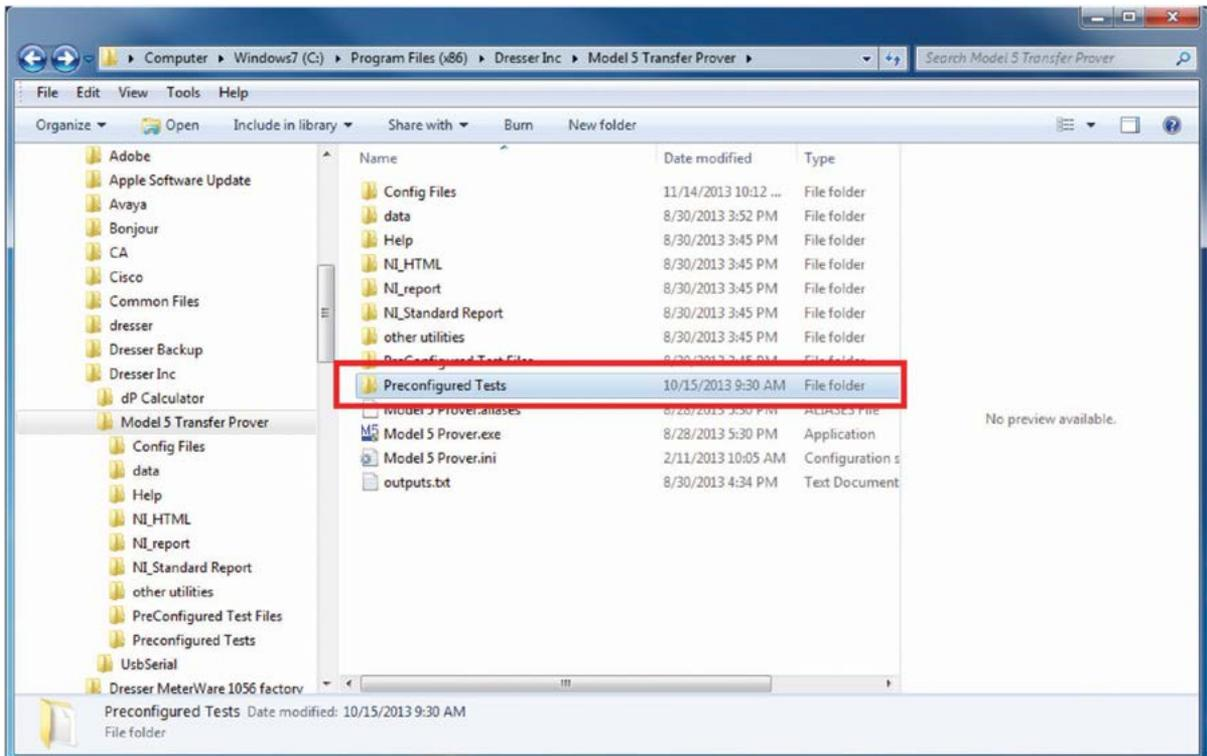

Figure 14: Find “Preconfigured Tests”
14. Within “Model 5 Transfer Prover”, select “Preconfigured Tests” as shown in **Figure 14**.